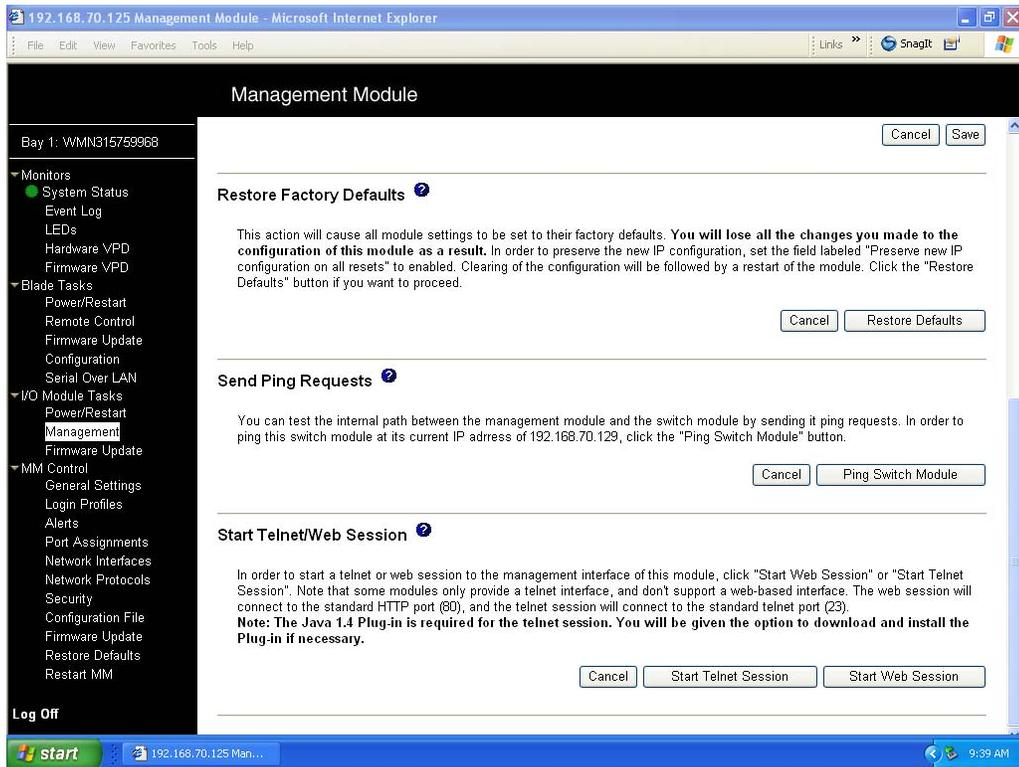

Figure 13. Switch Management window - advanced
7. Scroll down and click **Advanced Switch Management**. A window similar to the one in Figure 13 on page 26 opens.